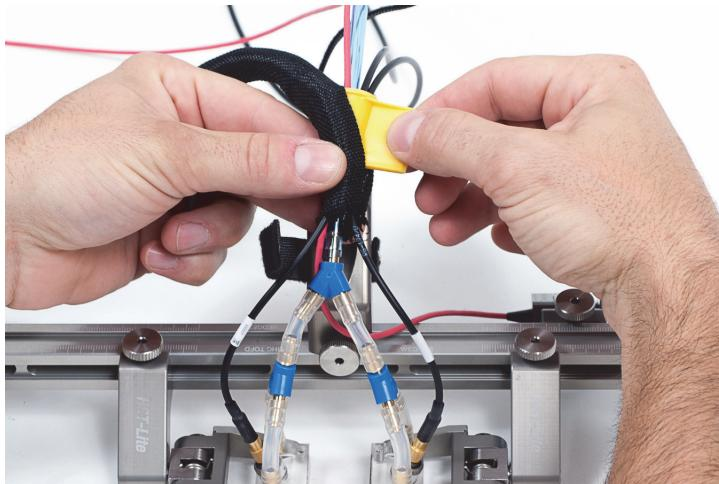

Figure 1-16 Cable sheath installed on the draw-in tool
4. Install the cable sheath over the draw-in tool, and then slide the tool to install the cable sheath (see Figure 1-16 on page 30).